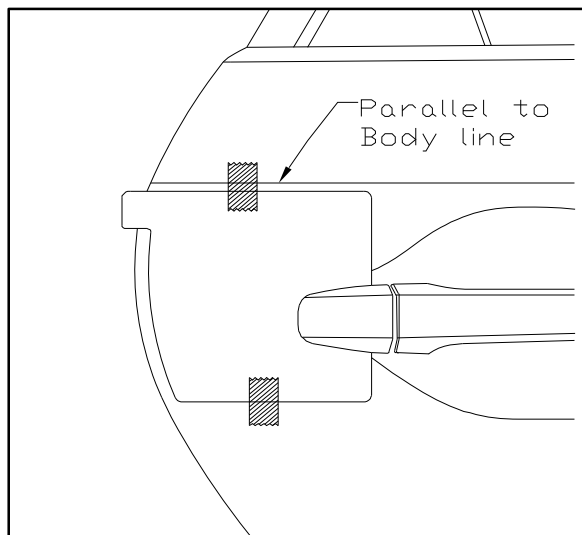

Fig. 1-3
- (b) Select rear door template and fit notch around door handle. Adjust as needed to ensure it is parallel to body line directly above the template. If needed, tape into place using painter’s masking tape. (Fig 1-3)